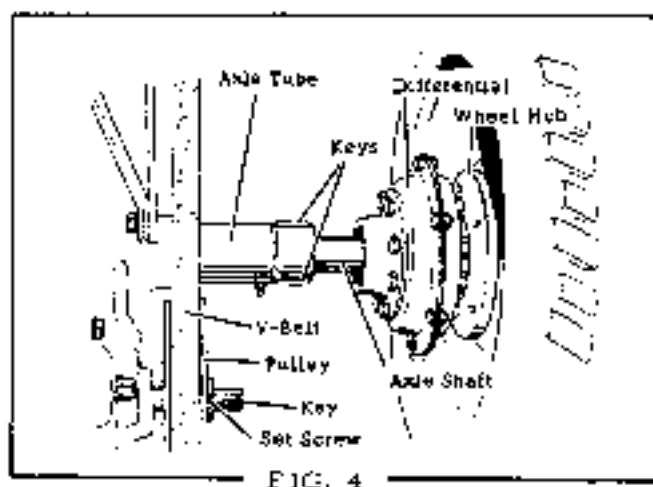

FIG. 4
7. From the right hand side of the tractor, remove the axle shaft, right hand wheel, hub and differential in one piece by tapping the edge of the differential hub with a lead mallet. When the differential hub is free of the 2 keys on the transmission axle tube as shown in Fig. 4, pull the axle shaft, etc., straight out of the transmission.